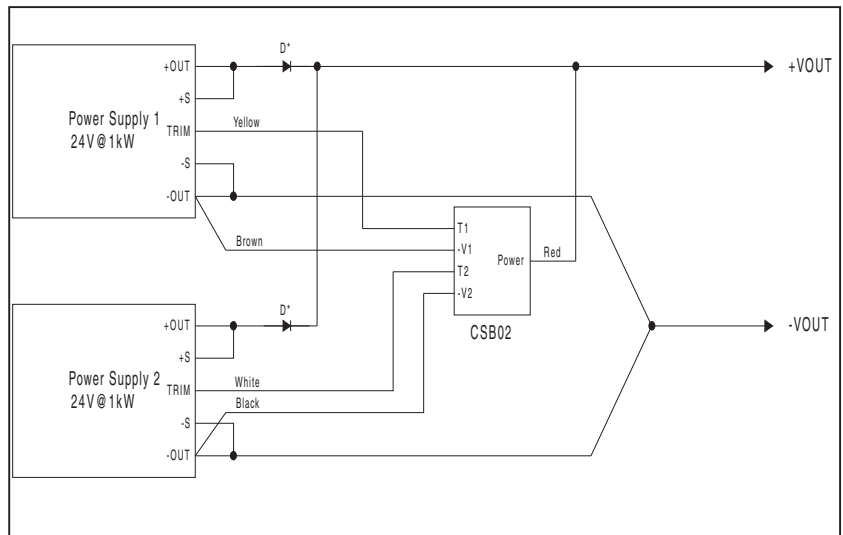

Figure 1. CSB Interconnect Example
must be used as shown in figure 1. Each leg of the "Y" must have a minimum of a few millivolts of drop in order for proper operation. 50mV to 100mV of drop will provide from 5% to 1% accuracy.
6. Terminate Sense Leads either locally or remotely as shown in figure 1.